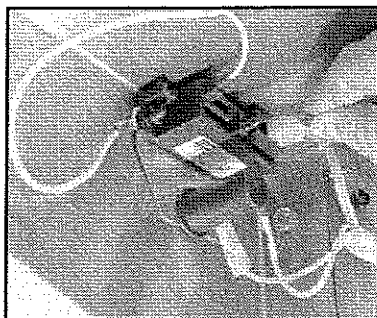

Fig. 12
3. Attach the ignitor wire coming out of the left side of the grill to the ignitor terminal. (See Fig. 12)